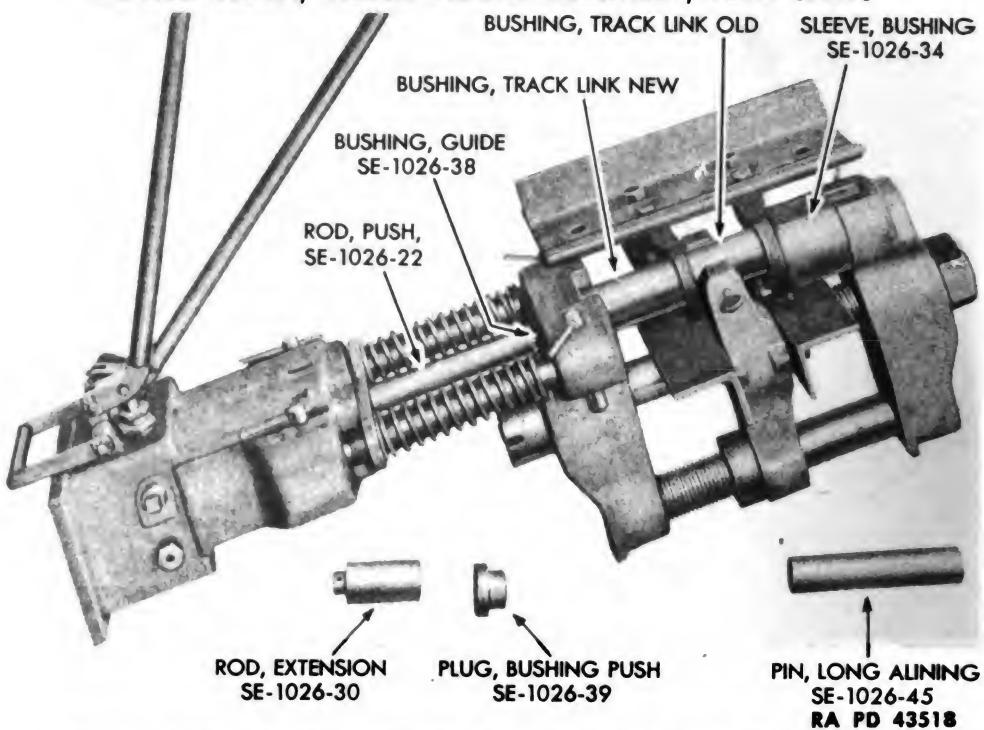

Figure 164 — Pushing Old Bushing Out and New Bushing In,
(8) PUSH OLD BUSHING OUT AND NEW BUSHING IN, IN SAME OPERATION (WITH SHOES ASSEMBLED TO LINKS) (fig. 164).